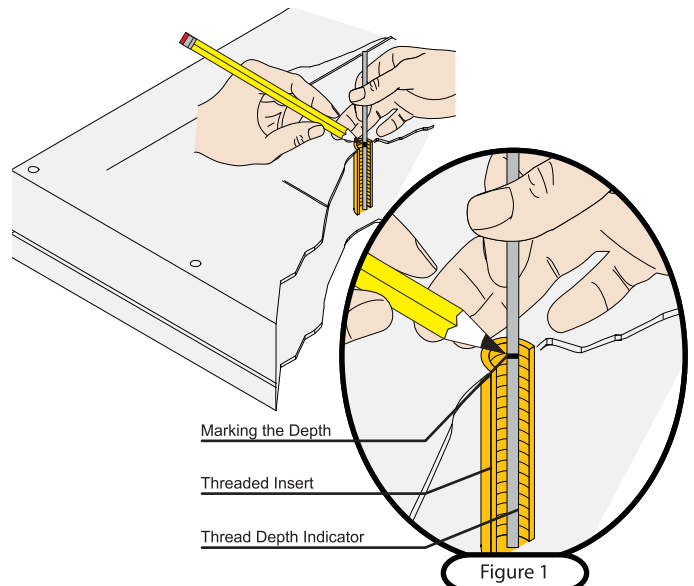

Figure 1
- ❶ Insert the Thread Depth Indicator into the thread inserts found on the bottom or top of the flat panel.
- ❷ Use a pencil to mark the depth of the thread insert on the Thread Depth Indicator, as shown in Figure 1.
- ❸ Insert the Thread Depth Indicator into the remaining thread inserts to compare and verify their depth.
- ❹ Locate the correct diameter screw for the thread insert.